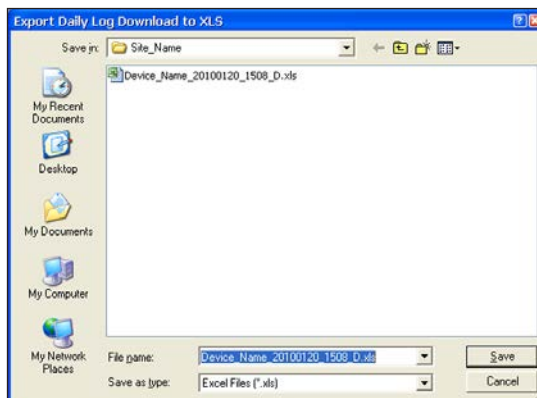

Figure 14.28
3. An Export... window will appear (Figure 14.28). To change the file path and/or file name from the defaults listed below, browse to the desired file path and/or type the desired entry in the field provided. See Log Directory and Filenames, page A-16 for more information.